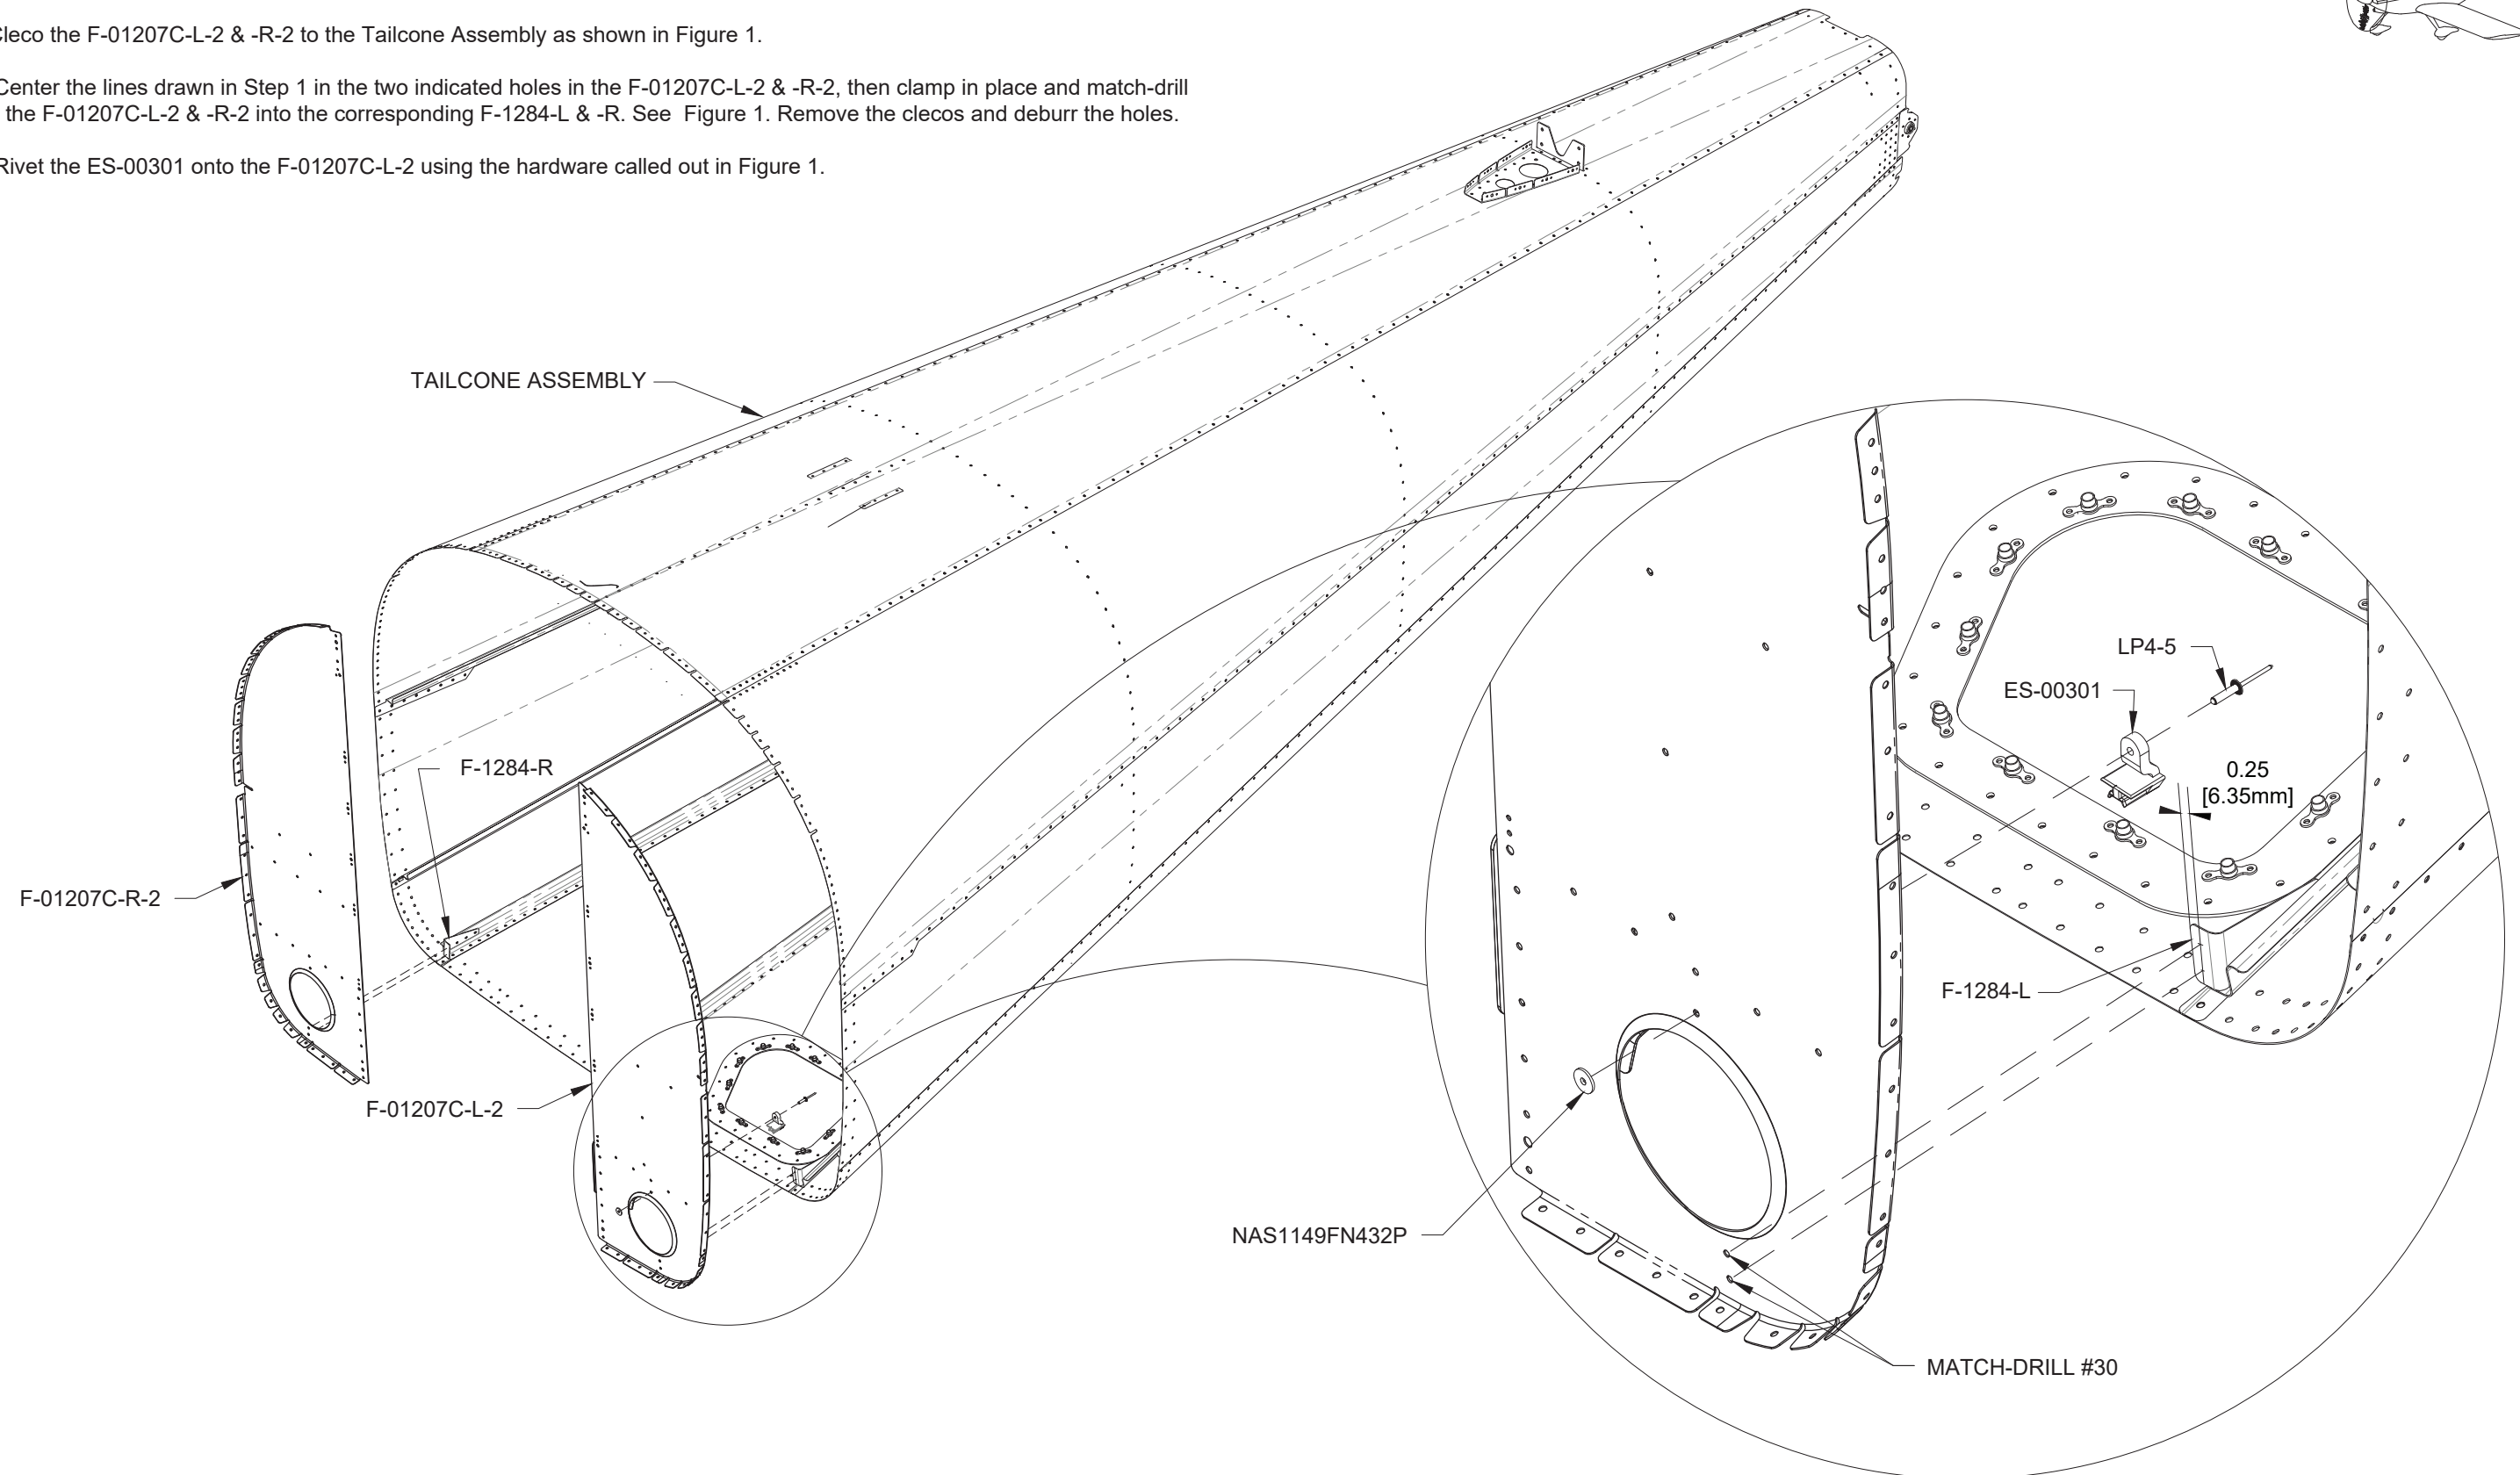

FIGURE 1: MATCH-DRILLING SHEAR CLIPS
Step 1: Dimple the nutplate rivet holes (flush forward side) in the F-1207A, F-01207C-L-2 & -R-2, and F-01207D-L-2 & -R-2. See Figure 1.